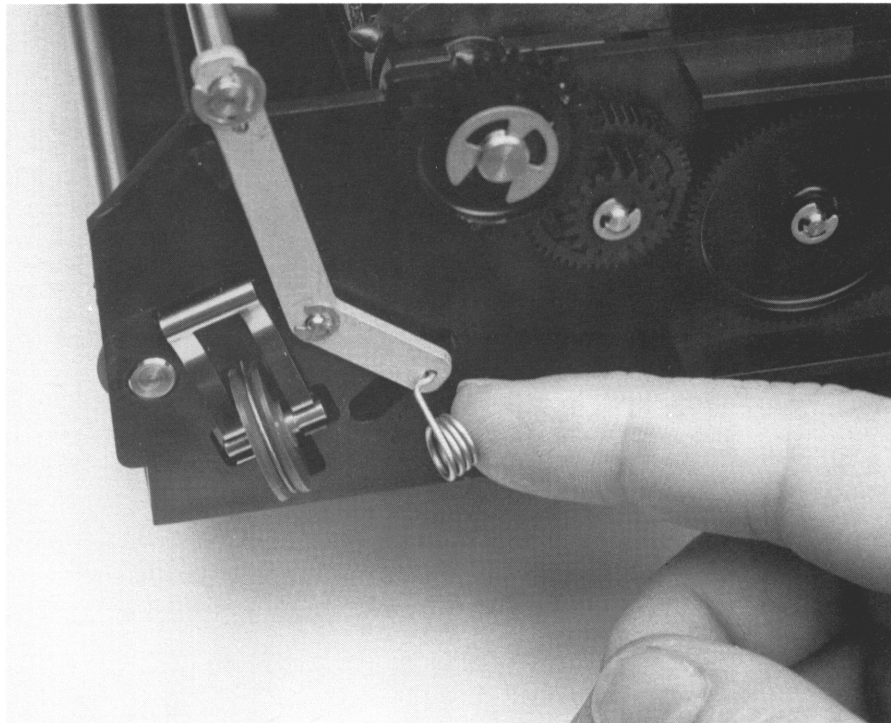

Figure 3-9, Bail Arm Removal
1. Lift both bail-arm springs to the outward position (see Figure 3-9), pinch legs together, and lift out.